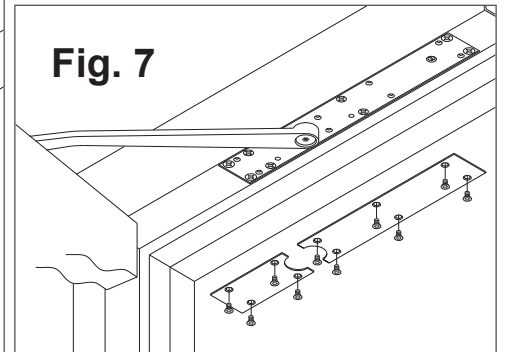

Fig. 7
- 1i Once proper operation has been verified, secure finish plates with No. 10-24 x 3/8" Torx security screws, as shown in Fig. 7.